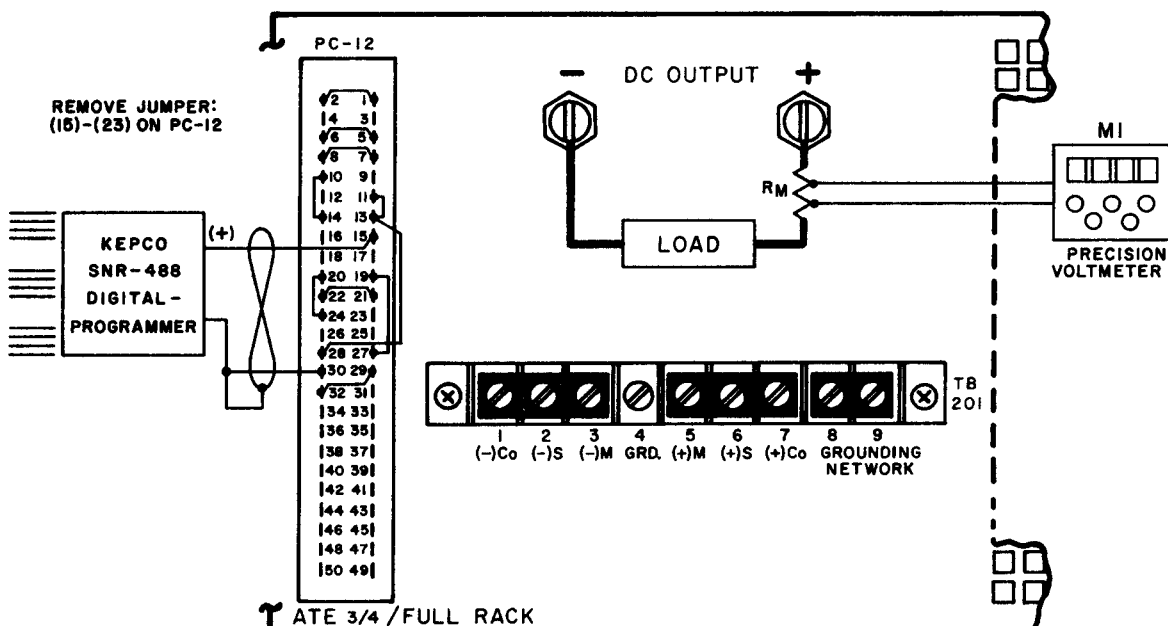

FIG. 3-11 CONNECTIONS FOR OUTPUT CURRENT CONTROL WITH A 0-1 VOLT CONTROL SIGNAL (KEPCO SN-488 DIGITAL PROGRAMMER).
3-58 GENERAL. The ATE output current, controlled by a front panel CURRENT CONTROL rheostat in the local control mode, can be remotely controlled by disconnecting the 15V bias from the non-inverting input of the EXT. CURRENT COMPARISON AMPL at the REAR PROGRAMMING CONNECTOR, and applying a 0 to 1 volt external control signal with reference to the ATE COMMON terminal. Since the non-inverting input of the EXT. CURRENT COMPARISON AMPL is used, only the small amplifier bias current must be supplied by the external control source. IN ALL CURRENT PROGRAMMING APPLICATIONS, THE FRONT PANEL CURRENT CONTROL SETTING OF THE ATE ACTS AS A "BACK-UP" CURRENT LIMIT AND MUST BE SET SLIGHTLY HIGHER THAN THE REQUIRED MAXIMUM OUTPUT CURRENT. An application, demonstrating this control method is described in PAR. 3-60 and illustrated in FIG. 3-11.
- 1) Connect the EXT. CONTROL VOLTAGE, (Model SN-488 Digital Programmer), the LOAD and the PRECISION VOLTMETER (M1) to the ATE as shown in FIG. 3-11.
Note: The output current value can be measured directly by means of a suitable ammeter in series with the load or, as indicated in FIG. 3-11, indirectly by means of the precision voltmeter (M1) across a current measuring resistor (R_M). R_M should be selected such that a convenient range on the precision voltmeter can be used, e.g., for a 10 ampere output current, use a 0.1 ohm, resistor to produce a one volt full scale reading. If an electronic voltmeter is used, it should be battery-operated to avoid ground loops.